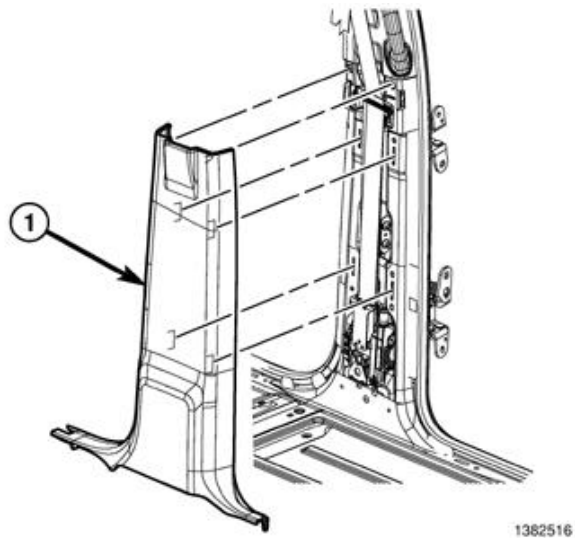

Figure 39 – B-Pillar Lower Trim Panel
7. Release the retaining clips and remove the B-pillar lower trim panel to allow for removal of the B-pillar upper trim panel (Figure 39).
52. Position the B-pillar lower trim panel and engage the retaining clips fully (Figure 39).